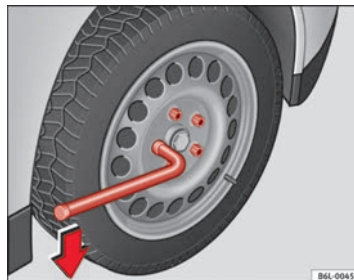

Fig. 145 Changing the wheel: loosen the wheel bolts
- Grasp the box spanner by the end turn it about one full turn to the **left** ⇒ fig. 145.